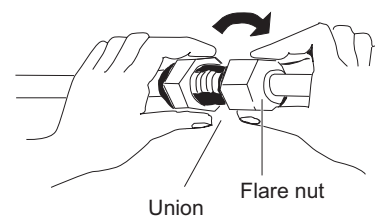

Fig. 2-246
- (3) For proper connection, align the union tube and flare tube straight with each other, then screw in the flare nut lightly at first to obtain a smooth match. (Fig. 2-246)